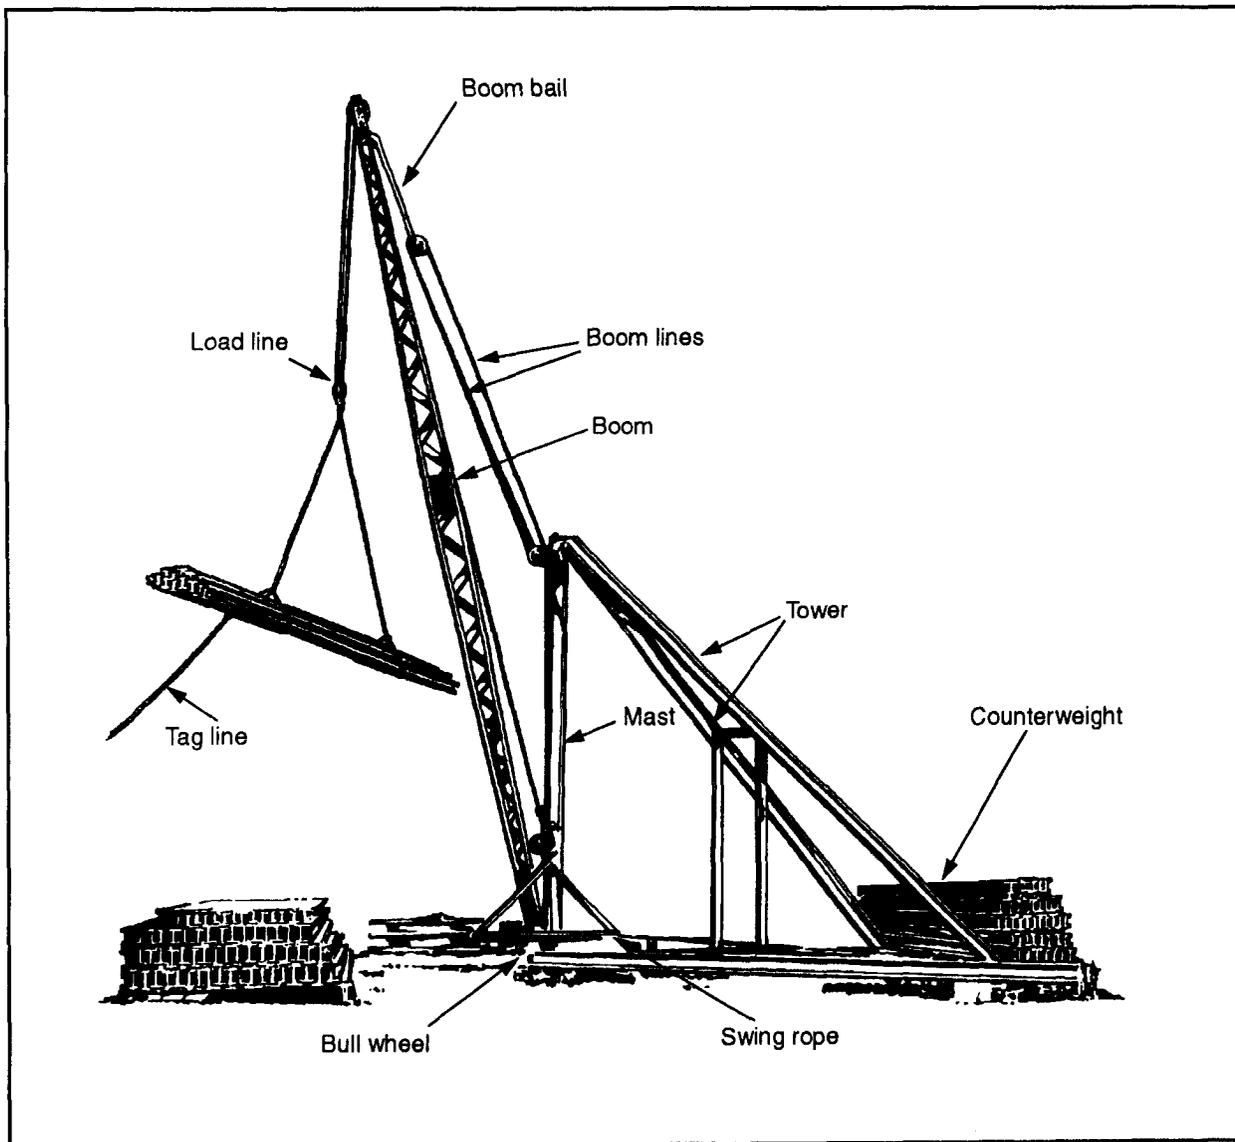

Figure 5-10. Four-ton stiff-leg derrick
- A 4-ton rated capacity with a 28-foot radius (see *Figure 5-10*, page 5-14).